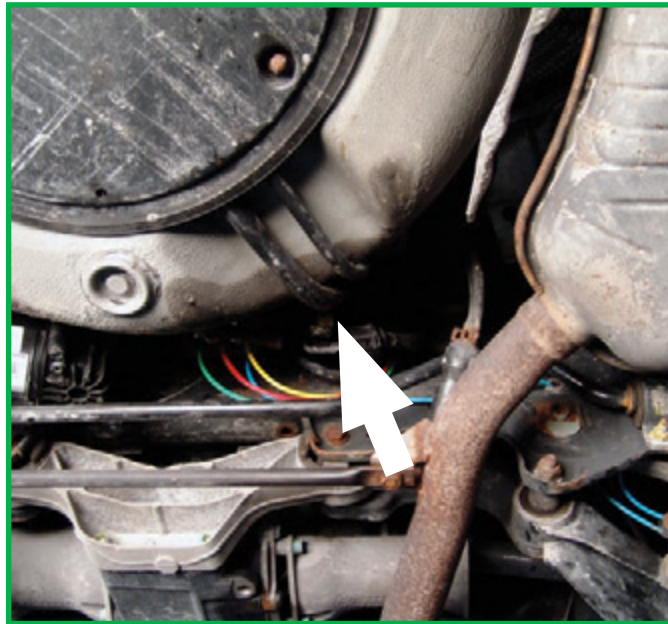

FIGURE 5
5. Disconnect the three (3) electrical plugs, air line and intake air hose from the compressor. One plug is on the solenoid while the other two are positioned to the right. Remove the air line fitting from the air hose and discard. (Figure 5)